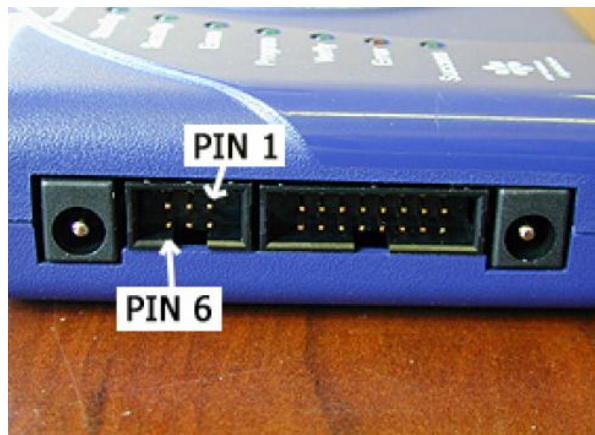

Figure 17. 6-Pin BDM Connector Pin Connections – Cyclone Pro
- Connect a 6-wire flat ribbon cable between 6-pin BDM (Figure 17 - Cyclone Pro) and 6-pin header JC_H1 (Isolator Board). Make sure the red strip on the ribbon cable aligns with the pin#1 (of 6-pin header) on both sides of the cable.